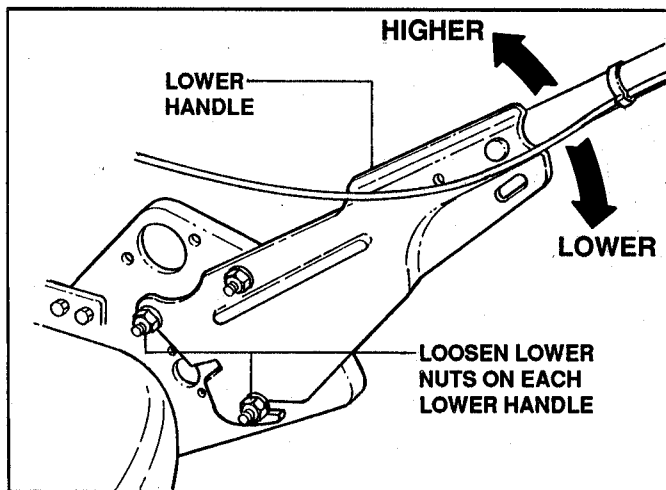

FIGURE 2.3
1. Loosen the lower nuts on each lower handle as shown in Figure 2.3.